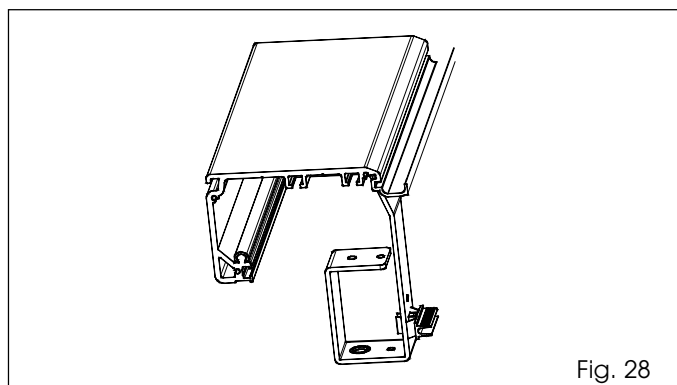

Fig. 28
- Secure the bracket supporting the internal release knob on the other end of the head profile (on the motor unit side), considering the dimensions in figure 4, 5 and 6 as shown in fig. 28. The support bracket of the internal release knob must always be installed, even if the motor lock is not used.